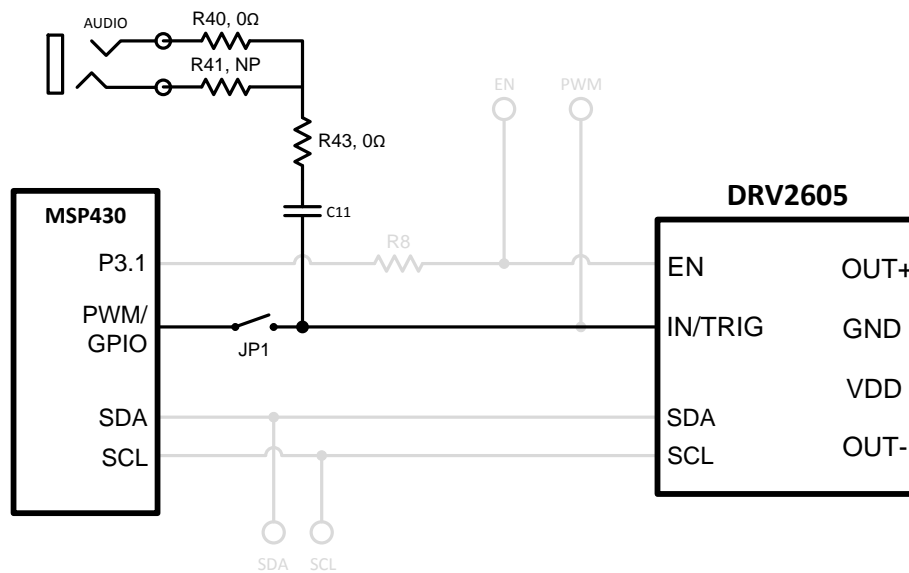

Figure 21. Audio-to-Haptics Input
1. Apply an analog line-out audio signal (not PWM) to the AUDIO jack on the left side of the board. The tip of the inserted male audio plug is applied to the IN/TRIG pin of the DRV2605. See Figure 21.